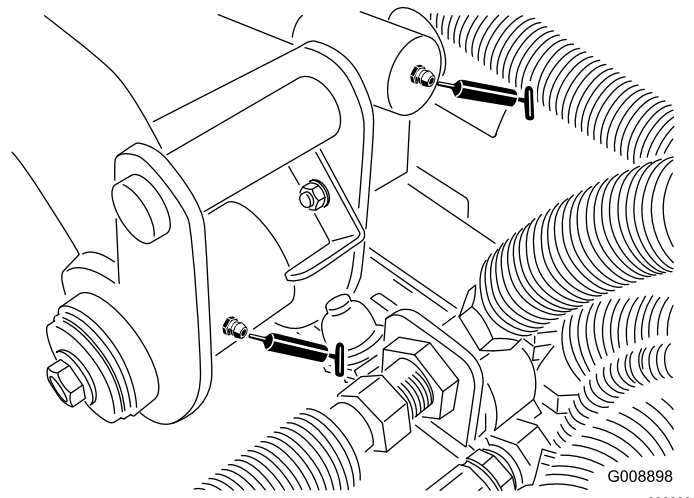

Figure 64
- Rear lift arm pivot and lift cylinder (2 fittings—Figure 64)